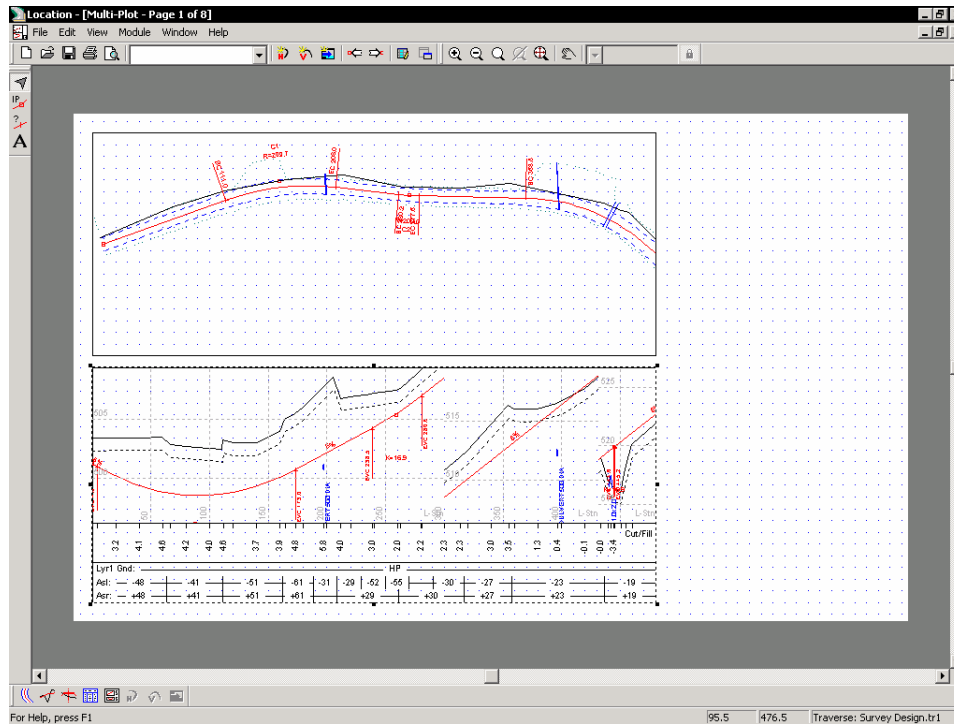

Figure 9.3: Multi-Plot Page 1 After Loading Screen Layout.
The Multi-Plot Window should now resemble Figure 9.3.
- File | Retrieve Screen layout. Double click on **\RoadEng\Tutorial\Location\output plan over profile.DLT**. Maximize the Multi-Plot Window. The screen will appear like Figure 9.3 in the previous section
3. File|Retrieve Screen layout. Select **\RoadEng\Tutorial\Location\output plan over profile.DLT**. Maximize the Multi-Plot Window. Your screen will appear like Figure 9.3 in the previous section